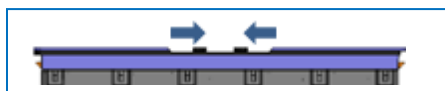

Figure 5 Removal of the **XRpad™ LBP**
- Move the two sliding latch closer to the center to disengage the **XRpad™ LBP** from the **XRpad™ 4336** detector (see Figure 5). Remove the **XRpad™ LBP** out of the battery